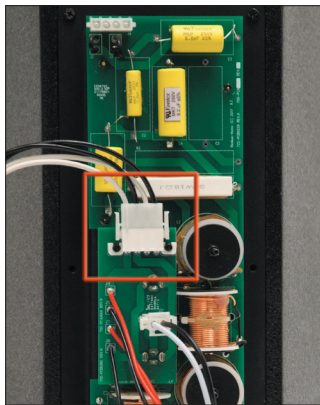

Figure 3
4. Near the center of the crossover network will be a four-wire receptacle on a smaller PC board. Plug the four-pin connector in here. The connection is keyed, you can only plug it in the correct way. *Bordered in red in Figure 3.*